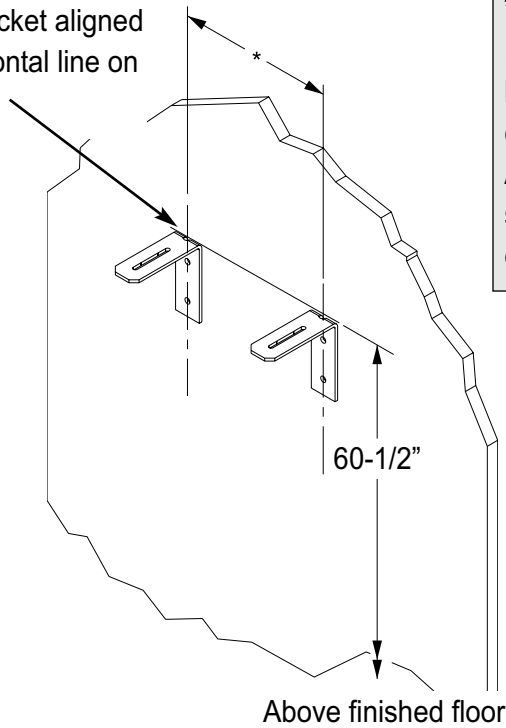

**Figure 5**
1. Remove large nut and plug from right side of control section. Attach appropriate header extension to control section. Position cylinder inlet connections of each header extension so they are pointing out. Additional header extensions may be attached end to end if required. Install large nut and plug previously removed on end of last header extension (Figure 5).